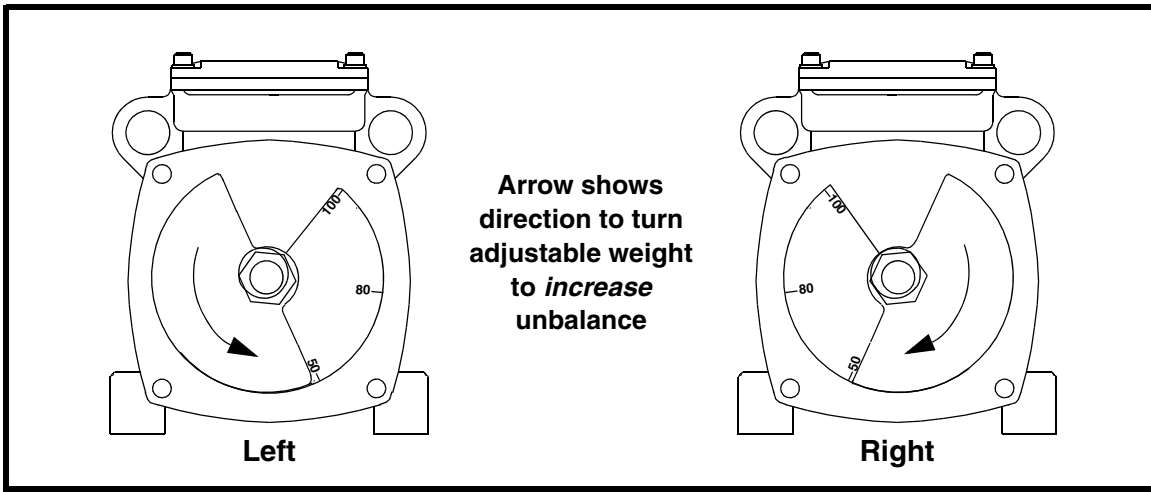

Figure 3. Adjustable Weights Set at 50%
4. See Figure 3. Rotate adjustable eccentric weight to proper setting. To produce more force, move weight to higher setting (i.e., higher number). When set, tighten cap screw or nut according to Table II.